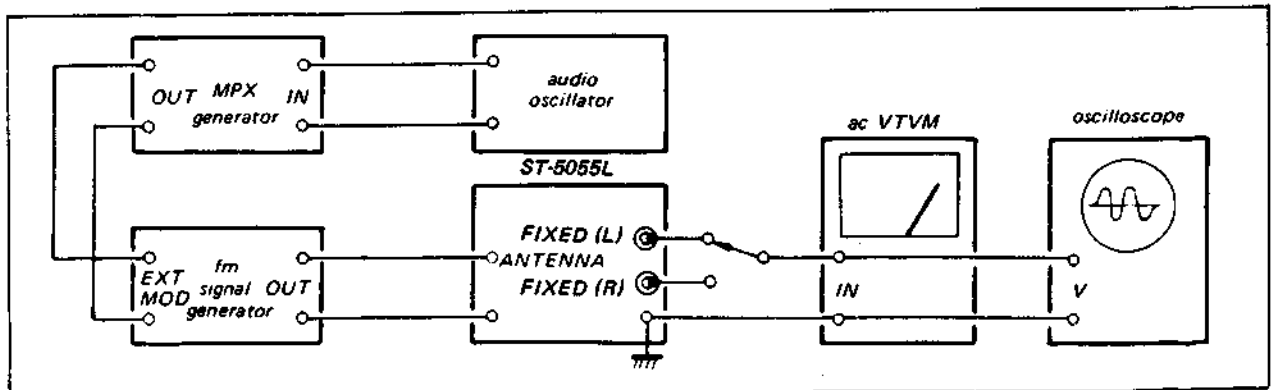

Fig. 3-7. Fm stereo separation adjustment test setup
1. Connect the equipment as shown in Fig. 3-7. Set the fm signal-generator control as follows:
- (a) With the equipment connected as shown in Fig. 3-7, set the MPX stereo generator controls as follows.